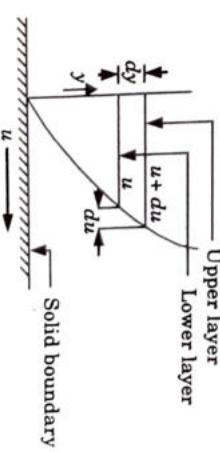

Fig. 3.2.1. Velocity variation near a solid boundary.
- From Fig. 3.2.1, let two layers of fluid at a distance ' $dy$ ' apart, move one over the other at different velocities  $u$  and  $u + du$ .